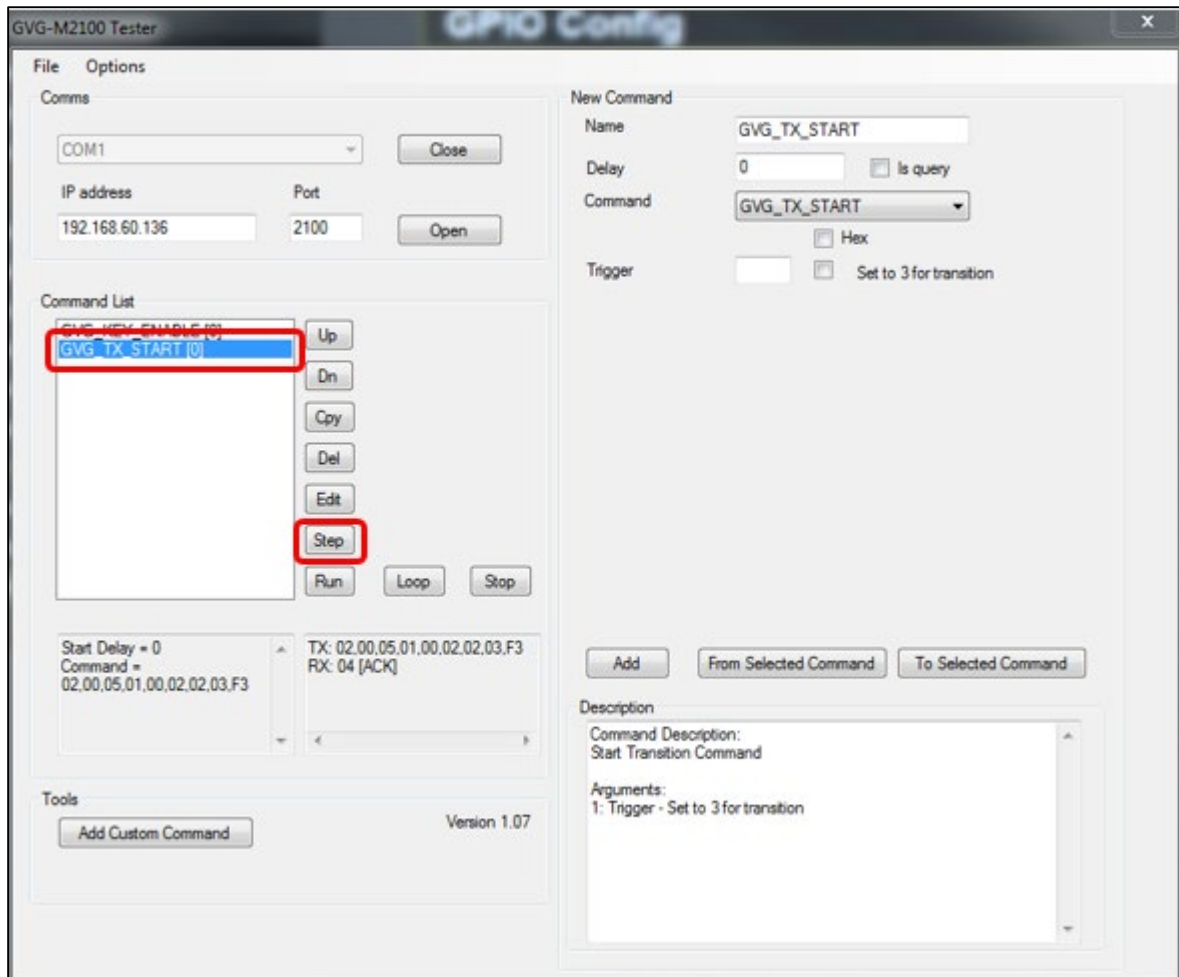

Figure 5-6: M2100 – Activate Keyer with Transition (from PVW to PGM) Command
- 5) Select the 'GVG_TX_START' in the 'Comand List' and press 'Step' button to activate the Keyer, as Figure 5-6.